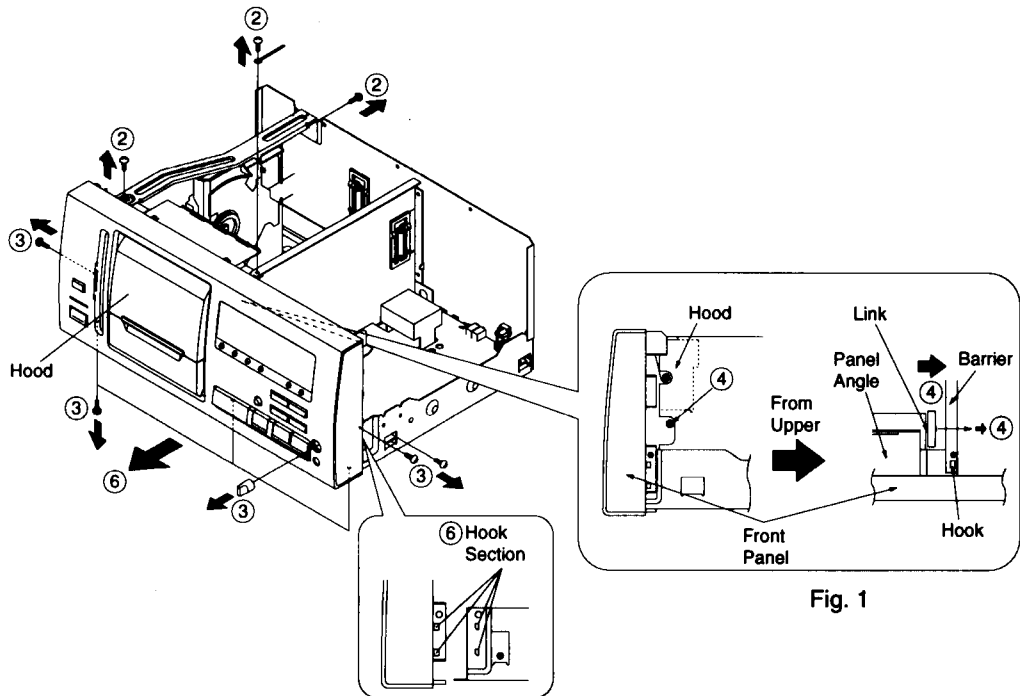

Fig. 2
- ⑥ Remove the front panel, then shift the front panel slightly toward you while paying attention to the right and left hooks on the chassis. (Fig.2)